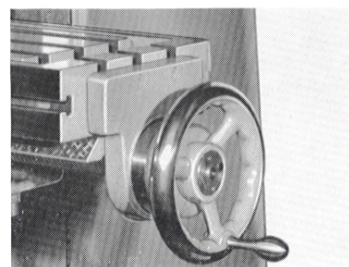

Figure 19A
**Manual Table Feed** — The handwheel shown in Figure 19A is for positioning the table by hand. One rotation of the handwheel in a clockwise direction will move the table away from the operator  $.200$  of an inch. The micrometer dial is graduated in 200 equal spaces, which is equivalent to  $.001$ " movement of the table for each space.